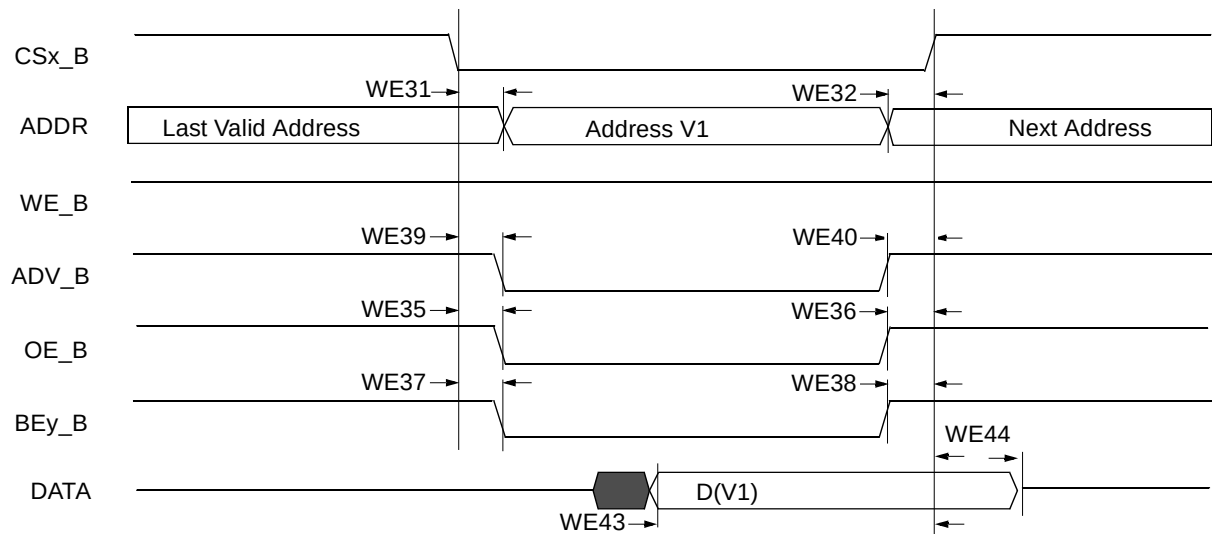
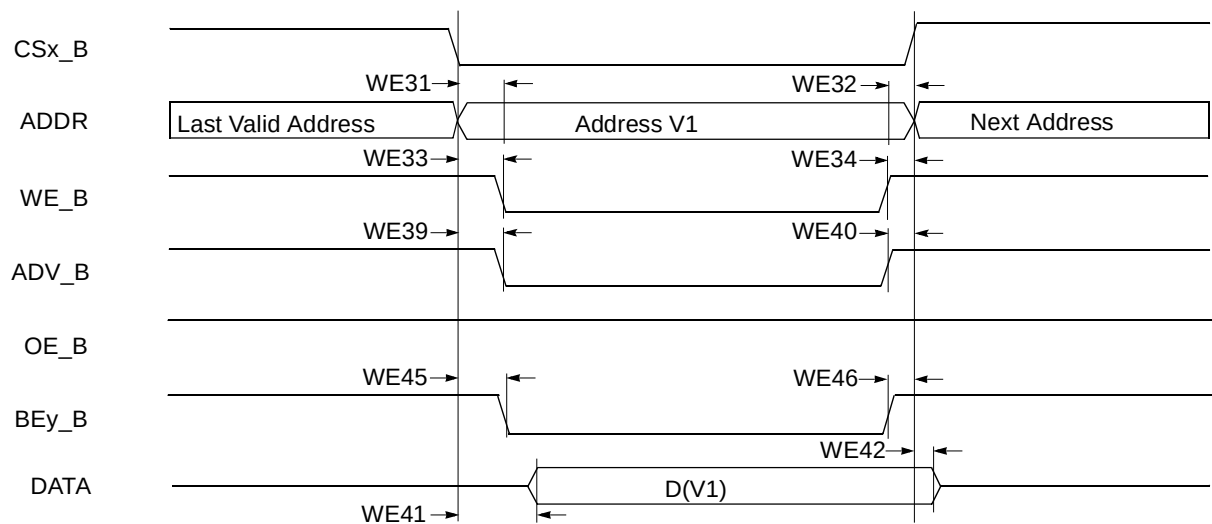

Figure 28. Asynchronous Memory Read Access
Figure 29. Asynchronous Memory Write Access
Figure 28, Figure 29, Figure 30, and Table 54 help to determine timing parameters relative chip select (CS) state for asynchronous and DTACK WEIM accesses with corresponding WEIM bit fields and the timing parameters mentioned above.